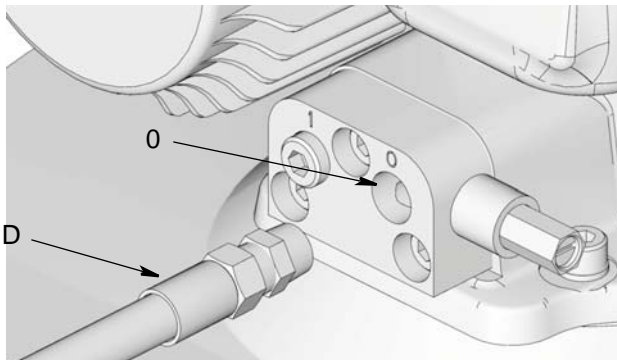

FIG. 73: Lubricant Outlet Connection
6. Connect the timer/controller (F) (user supplied, if used).
7. Connect High Pressure Lubricant Supply Line (D) to the Lubricant Output Connection (O) (FIG. 73) on the Vent Valve or Manifold.